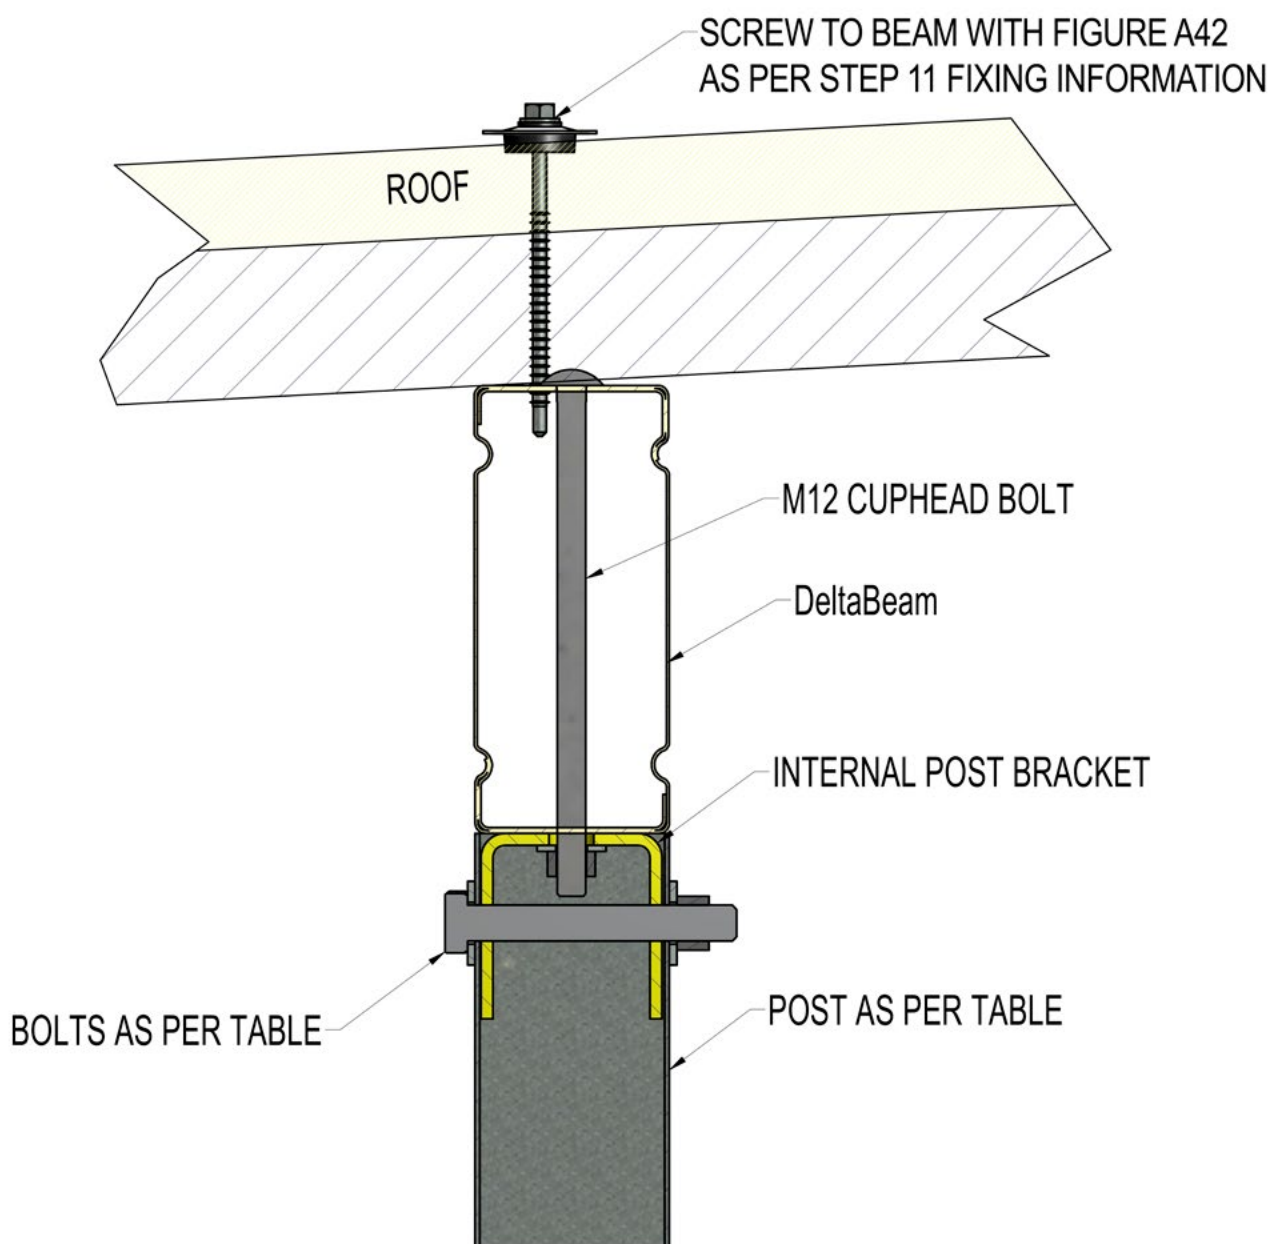

Figure A27
**Delta™ Steel or Aluminium Beam to Post (see Figure A27)**